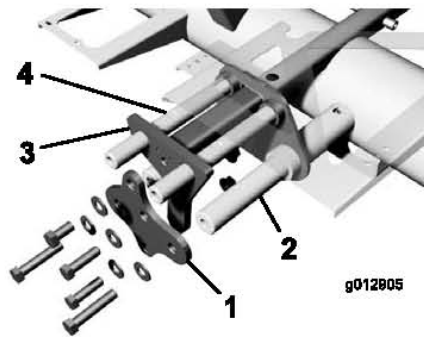

Figure 5
7. Loosely install the new bridge plate to the pivot shafts with (2) bolts (1/2 x 2-1/2 inch) and washers (1/2 inch) (Figure 5).
8. Loosely install the bridge plate to the frame stub plate with a bolt (1/2 x 1-1/4 inch) and washer (1/2 inch) (Figure 5).
9. Loosely install the bridge plate to the frame stub plate with (2) bolts (1/2 x 1-3/4 inch), washers (1/2 inch) and flange nuts (1/2 inch) (Figure 5).
10. Insert the lift cylinder pivot shafts through the stub shaft plate and secure them to the lift plate with the bolts and washers previously removed (Figure 5).